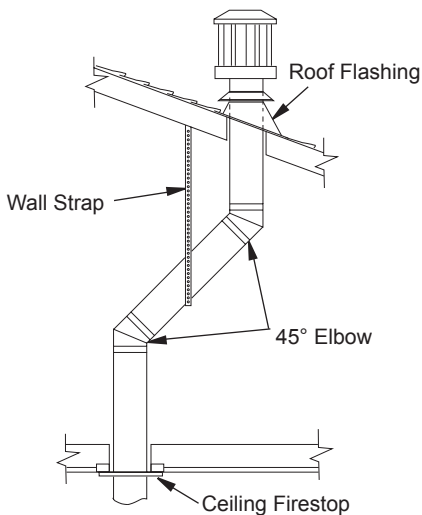

Figure 16 - Offset with Wall Strap and 45° Elbows
1. Determine route your vertical venting will take. If ceiling joists, roof rafters or other framing will obstruct venting system, consider an offset (see Figure 16) to avoid cutting load bearing members. Note: Pay special attention to these installation instructions for required clearances (air space) to combustibles when passing through ceilings, walls, roofs, enclosures, attic rafters, etc. Do not pack air spaces with insulation. Also note maximum vertical rise of venting system and any maximum horizontal offset limitations.
- Place flashing over pipe section(s) extending through roof. Secure base of flashing to roof and framing with roofing nails. Be sure roofing material overlaps top edge of flashing as shown in Figure 16. There must be a 1" clearance from vent pipe to combustible materials.